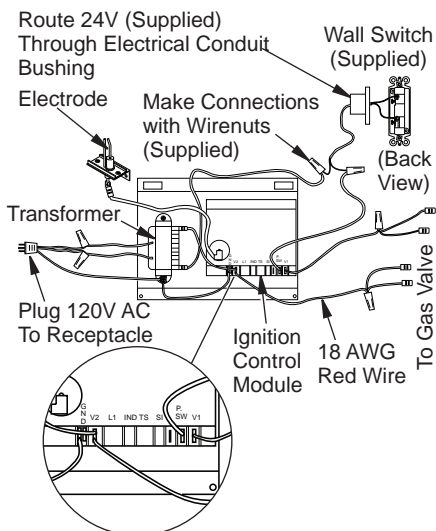
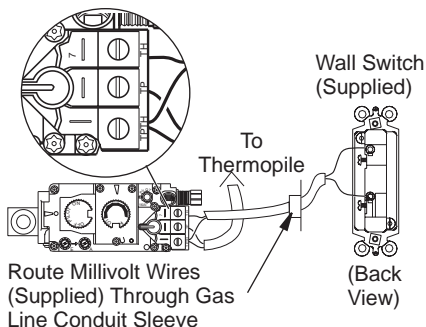

Figure 34 - Wall Switch Wiring Diagram, Electronic Units
Figure 35 - Wall Switch Wiring Diagram, Millivolt Units
Since the VDF36TPNEA/TSTEA series uses a 24 VAC current supplied from a transformer mounted on the ignition module and is prewired for easy connection to a wall switch (see Figure 34). The (V)DVF36TPNA/TSTA models use a self generated millivolt current that allows you to activate the gas control valve directly without the use of normal household electricity (see Figure 35). Both versions are supplied with a wall switch kit for ready connection and mounting.
2. Disconnect wall switch wires from terminals marked TH and TPTH (see Figure 35, page 21).
2. If a wall switch was installed, it must be removed from ignition control circuit for remote to work properly. Remove wire nuts from switch connection at ignition control module. Using wire nut, connect transformer (blue) wire to remaining wire connected to control terminal marked P.S.W (see Figure 34, page 21).